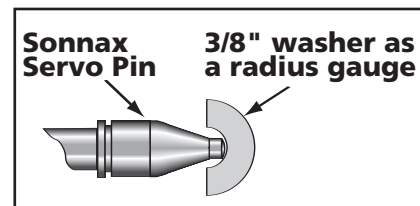

Figure 3
- It is important to maintain a spherical tip radius when grinding the pin. The inner hole of a 3/8" flat washer cut in half makes a good gauge for this (see Figure 3).